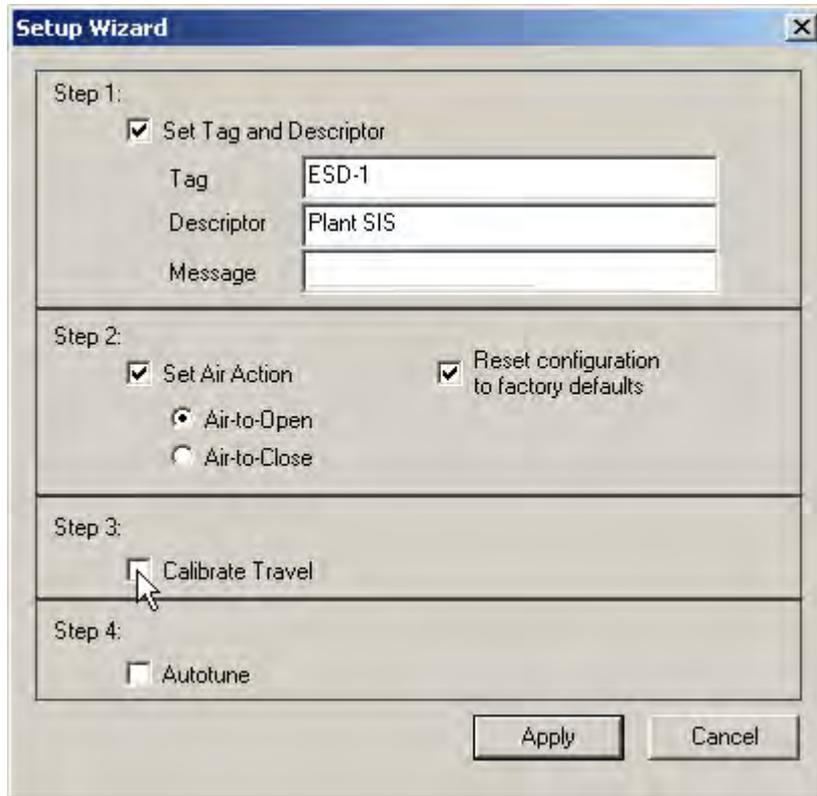

Figure 112 Enabling Calibrate Travel
- Click the **Calibrate Travel** checkbox (Figure 112).